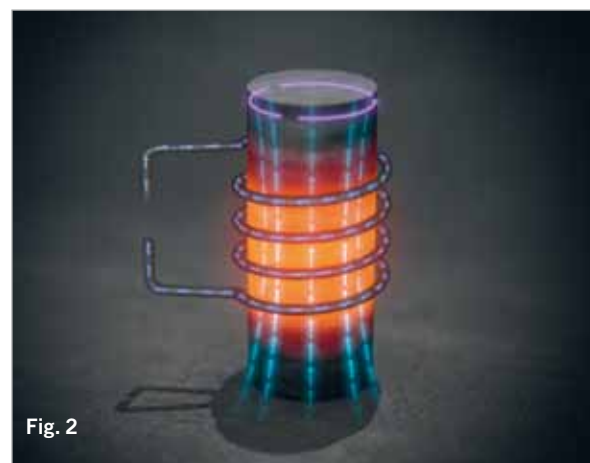

Fig. 2
Eddy currents are induced in any electrically conductive object—a metal bar, for example—placed inside the coil. The phenomenon of resistance generates heat in the area where the eddy currents are flowing. Increasing the strength of the magnetic field increases the heating effect. However, the total heating effect is also influenced by the magnetic properties of the object and the distance between it and the coil. (Fig. 2)
Step 3 You can now ascertain the overall efficiency level of the induction equipment. Some typical induction heater efficiency levels for common materials are listed in Fig. 2. Divide the calculated specific power need by the equipment efficiency rate. This gives you the total power requirement.
Fig. 2. Typical induction heater efficiency levels. The above values assume the use of enveloping multi-turn coils. Different coil designs may affect efficiency levels. For instance, the efficiency rate for copper is, because of the coil type normally used, usually 0.1-0.2.